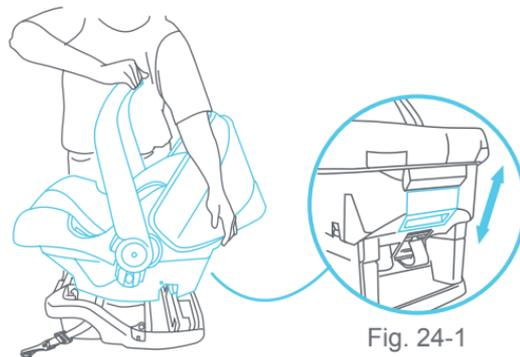

Fig. 24-1
- To remove the car seat from the base and stroller, squeeze the Base Release handle, located below the head end of the Safety Seat, to release the Safety Seat from the Base. Please see (Fig. 24-1).